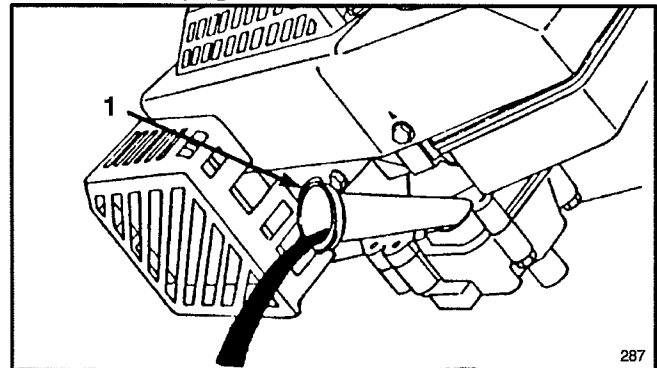

Figure 15
4. Tip mower on its left side, allowing oil to drain into drain pan (Fig. 15).